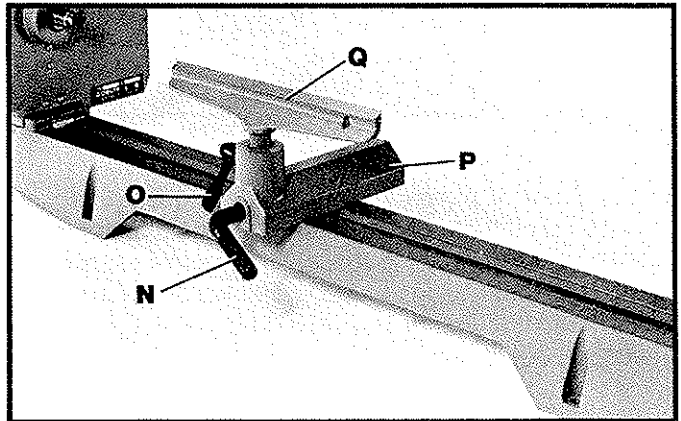

Fig. 9
8. Reposition tool rest base (P) and tool rest (Q) on lathe bed as shown in Fig. 9, and tighten locking levers (N) and (O).